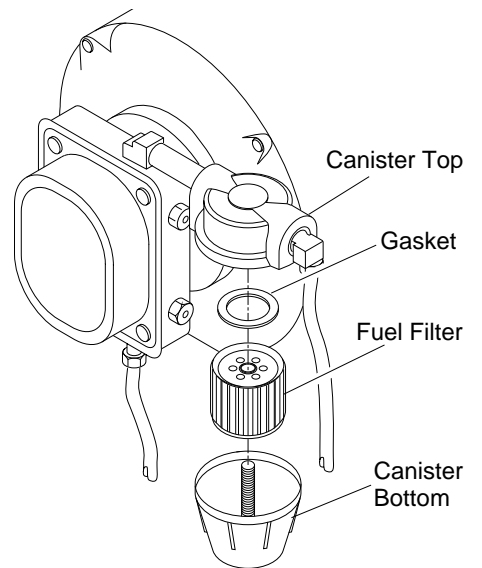

Figure 16 - Fuel Pump Filter and Canister
2. Remove fuel filter and gasket from canister bottom (see Figure 16).